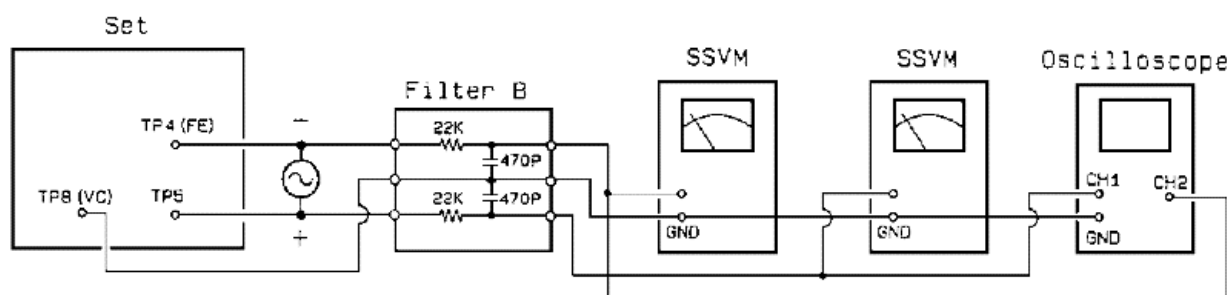

FIGURE 30-48 How to connect test instruments for focus-gain adjustment in the Optimus CD portable.
- 1 Connect an oscilloscope to TP4 (FE), TP5, and TP8 (VC) through filter B. Notice that TP8 must be connected to ground on the scope (Fig. 30-48).